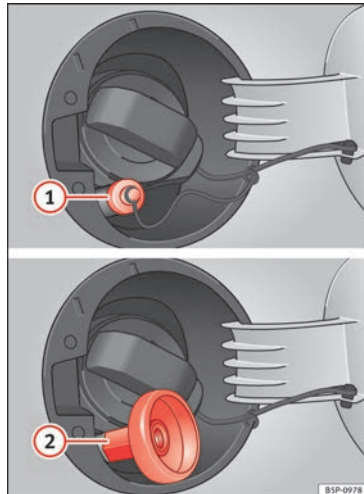

Fig. 140 Fuel tank open with LPG filler neck and adapter
- Remove the plug from the gas filler mouth » **Fig. 140** **①**.
- Screw the required adapter **②** onto the LPG gas filler neck.